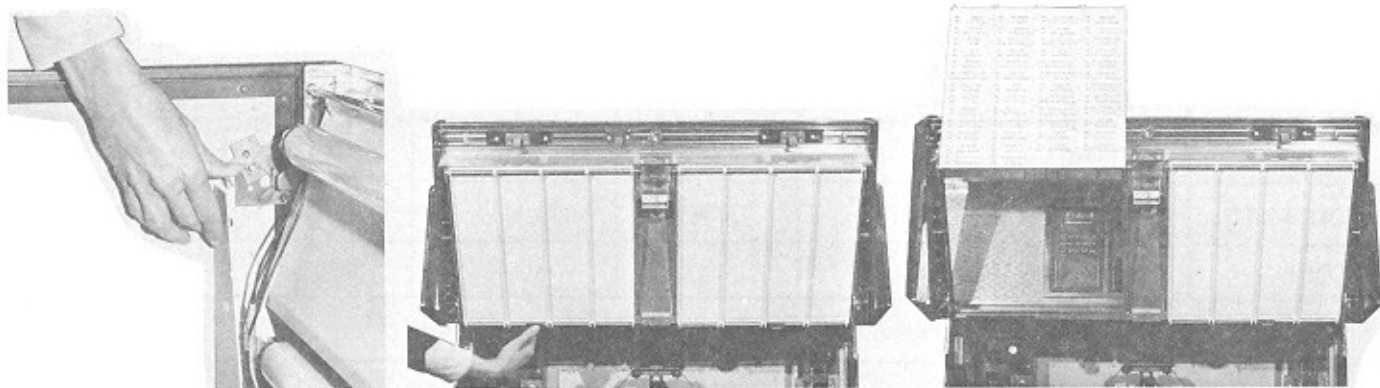

FIGURE 1-2. OPENING PHONOGRAPH CABINET
3. Remove tape from title panel. Release title panel by pressing down on spring catch as shown in fig. 1-2. Swing panel up as shown.